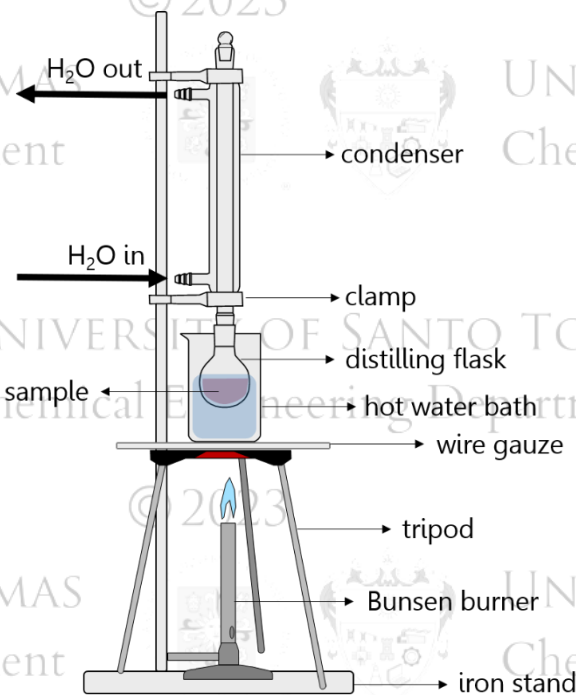

Figure 1. The reflux set-up
7. Transfer the resulting mixture in a reflux set-up as shown in Figure 1. Connect one end of the condenser to a water source and the other end to a drain. Add